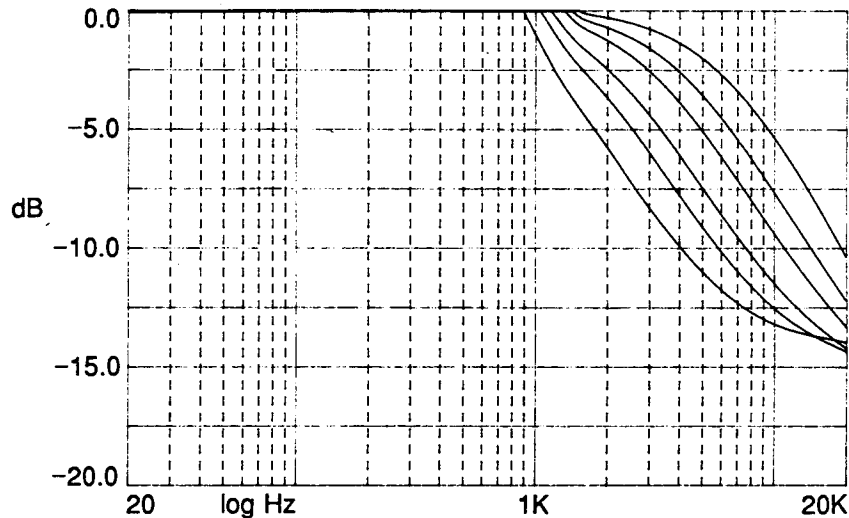

Fig. 4-1: Limiting Curves (see step 9m)
- m) Verify that the limiting action is as shown in Fig. 4-1 for each position of the L PRE-EMPHASIS switch.